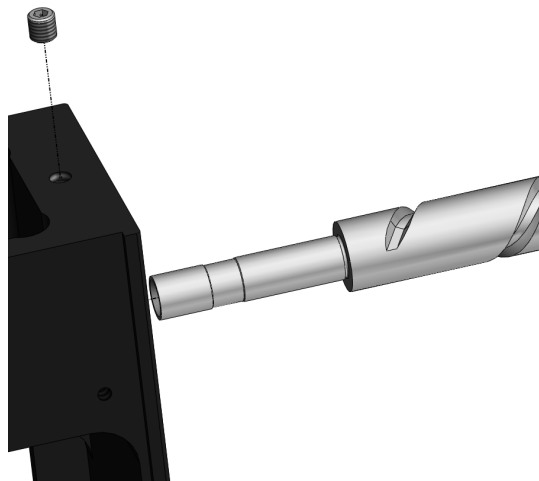

Figure 16 – Grub Screw removal
5. Undo the grub screw within the KAT body, as shown in Figure 16. This will loosen the dial adjustment collar and enable the lead screw to be removed.